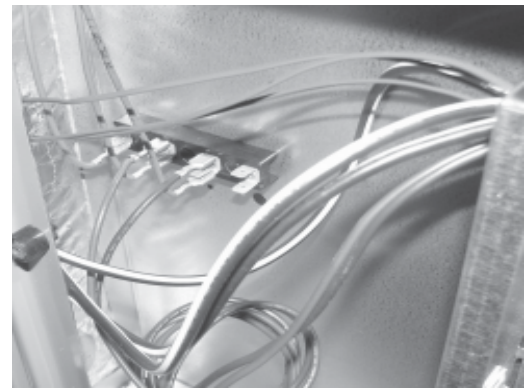

Fig. 3. Control terminal block.
5. **Low voltage control connections.** Connect low voltage control wires from heater control box to the 4-position terminal block located next to heater bay # 1 (see fig. 3). Refer to equipment base unit instructions for 1 step or 2 step wiring.